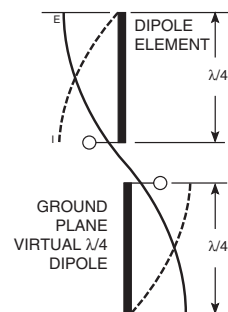

Figure 28: Dipole Antenna
4. In many antenna designs, particularly $\frac{1}{4}$ -wave whips, the ground plane acts as a counterpoise, forming, in essence, a $\frac{1}{2}$ -wave dipole (Figure 28). For this reason, adequate ground plane area is essential. The ground plane can be a metal case or ground-fill areas on a circuit board. Ideally, it should have a surface area less than or equal to the overall length of the $\frac{1}{4}$ -wave radiating element. This is often not practical due to size and configuration constraints. In these instances, a designer must make the best use of the area available to create as much ground